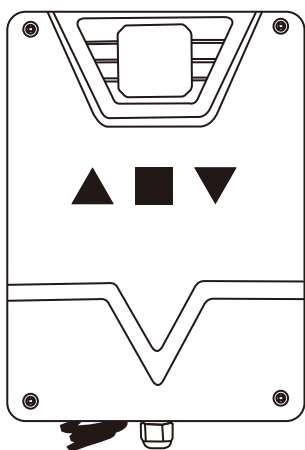

Figure 11
**Step 1.** Open the gate opener housing, you will access the control box, there are 3 buttons in the box housing, includes UP, Stop and Down. Fig 11